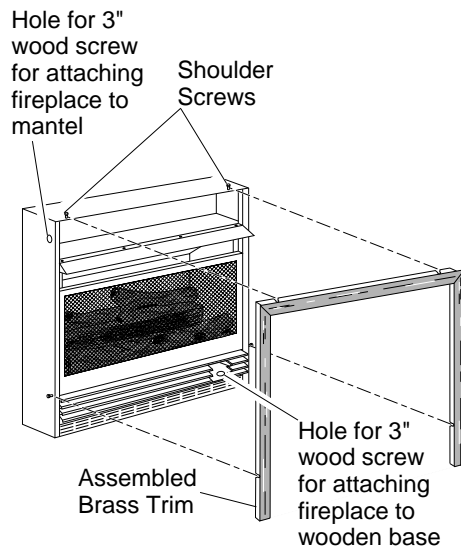

Figure 13 - Attaching Brass Trim to Fireplace
5. Firmly snap brass trim kit on shoulder screws. Shoulder screws are located on fireplace cabinet (see Figure 13).
7. Use two 3" wood screws provided and attach fireplace base to wooden base (see Figure 13).
14. Place brass trim kit on the shoulder screws located on the side and top of the fireplace. Firmly snap the brass trim over the shoulder screws on fireplace (see Figure 13).
15. Adjust assembly to remove any gaps. Attach remaining two 3" wood screws from hardware pack through openings inside of fireplace sides into the mantel. The openings are located at top behind the area for the black louvers (see Figure 13).